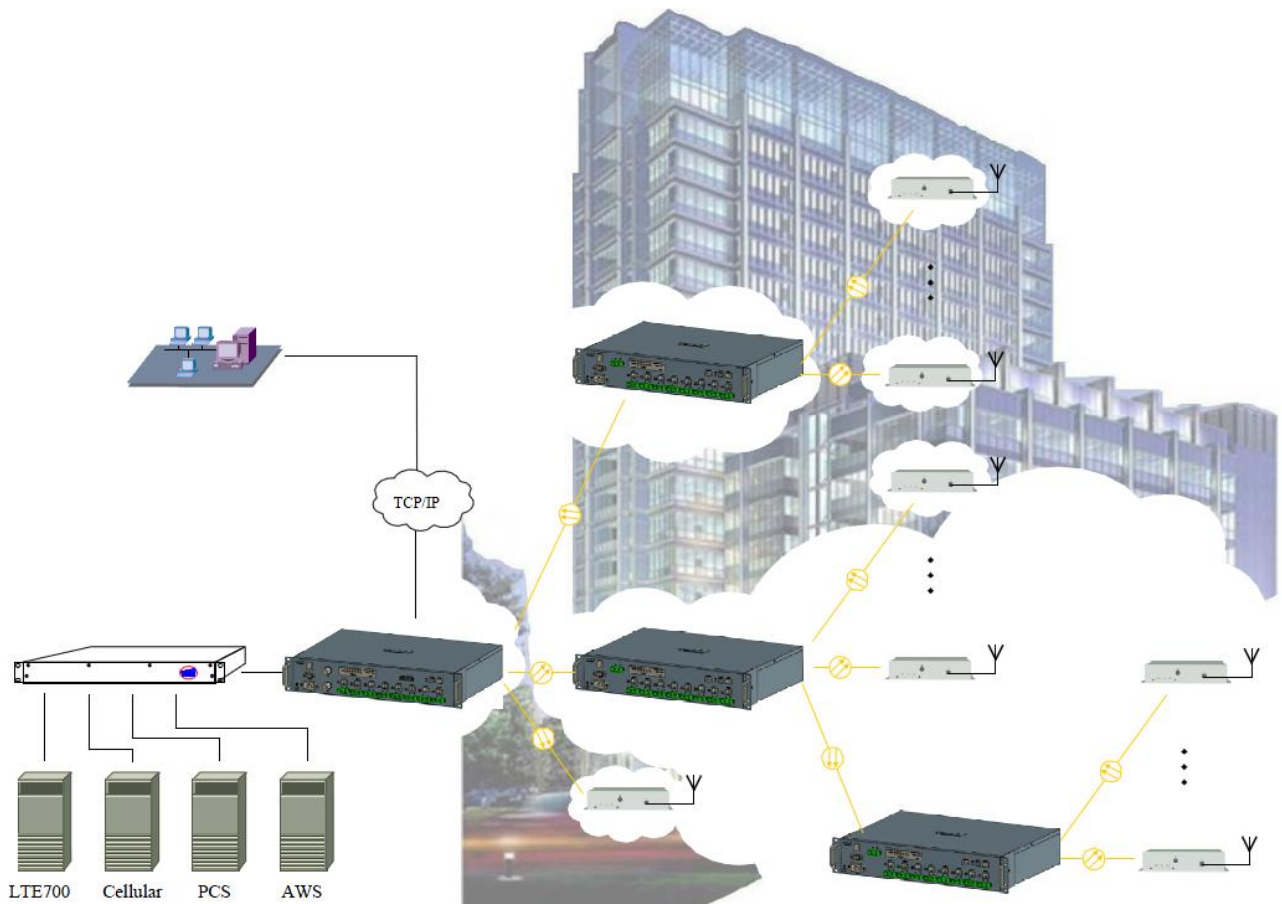

Figure 1-1 Topological structure of the system
As shown in Figure 1-1 shows, U-DAS2200 system the basic equipments: the main unit (MU), expansion unit (EU), remote unit (RU) composition. When the system working in many business state, it needs to increase the wireless access unit (WAU). The wireless access unit (WAU) combines more signals from the base station, and apply the RF signal to master unit (MU). Master unit (MU) will convert the RF signals to light signals, and expanded to 8ways to lower equipment. Expansion unit (EU) can take 1 way optical signals and converted to 8 roads. Remote unit (RU) will convert the optical signal to RF signal, and through the antenna launch out for signal coverage.